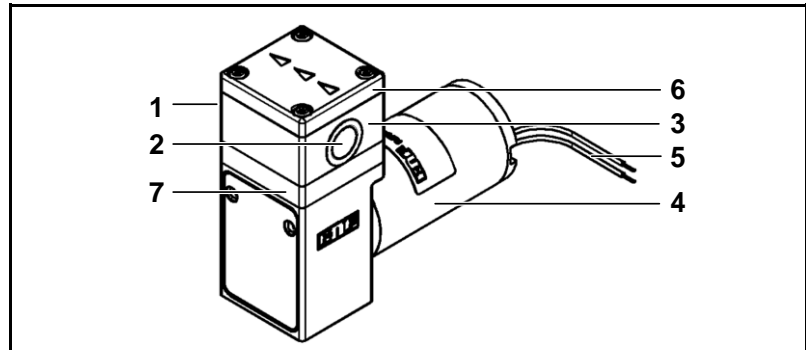

Fig. 1: Diaphragm liquid pump NF 300
* The pump head (Fig. 1) comprises a connecting plate and an intermediate plate